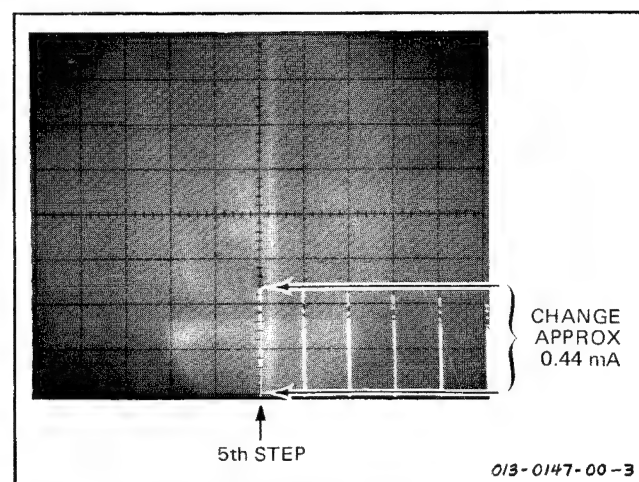

Fig. 2-12. Illustration of Example 3, part l.
l. The current (vertical display) at the fifth step (sixth line) should be ≤ 1.3 mA (≤ 6.5 major divisions of vertical deflection from bottom graticule line). 1.3 mA is the specified maximum current for this device. See Fig. 2-12.